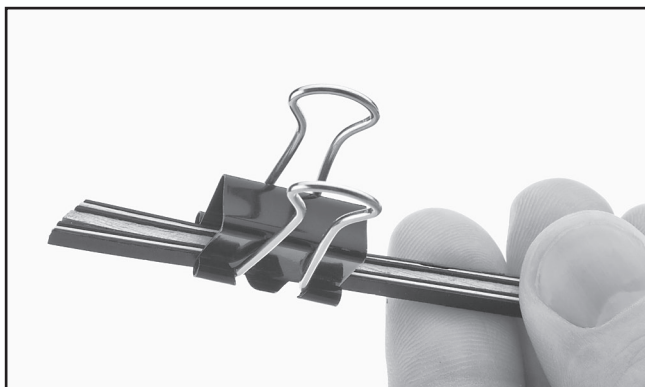

Figure 7. Purfling arranged with end-cut at 45°.
The sound board comes pre-cut with a $\frac{5}{32}$ " dado around the sound hole for decorating. The purfling material includes one mahogany strip and six strips of plastic. It is supplied long and will need to be arranged, measured, and cut. Arrange the purfling as desired to customize the ukulele. Select a purfling pattern that suits you. **Figure 7** shows an example.
1. Clamp the purfling strips together and cut one end of the group at a 45° angle. Do this as close to one end of the strip as possible (see **Figure 7**).